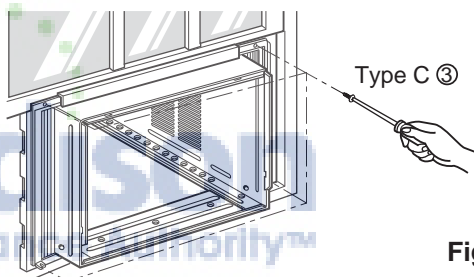

Fig. 6
9. Attach each Frame Curtain ⑤ to the window sash using screws ③ (Type C). ( Fig. 6)